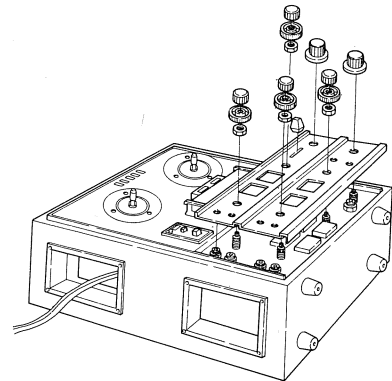

Fig. 5
1. Remove all knobs in Fig. 5.